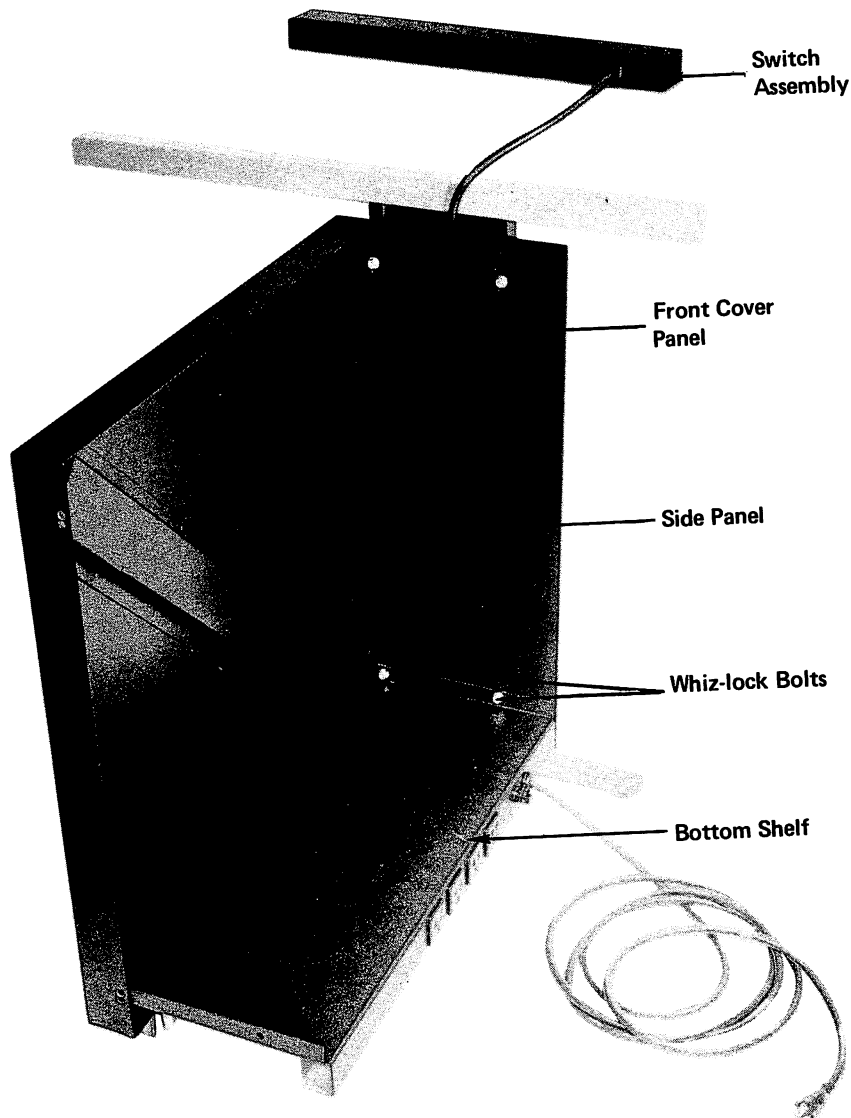

Fig. 4
1. Now, set the bottom shelf inside the back of the front cover panel and inside of left side panel. The shelf should fit very snug and you may have to tape the shelf in place (see Fig. 4).